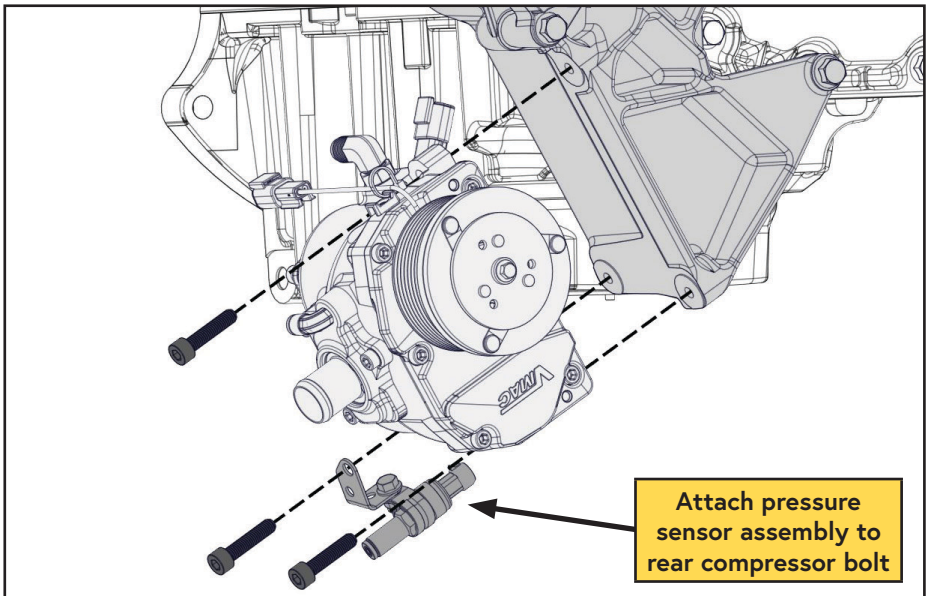

Figure 22 — Mount compressor
- Using the (x3) supplied M8x1.25x35 mm bolts, mount the compressor assembly, and pressure sensor assembly (in the orientation shown) onto the main bracket (Figure 22).